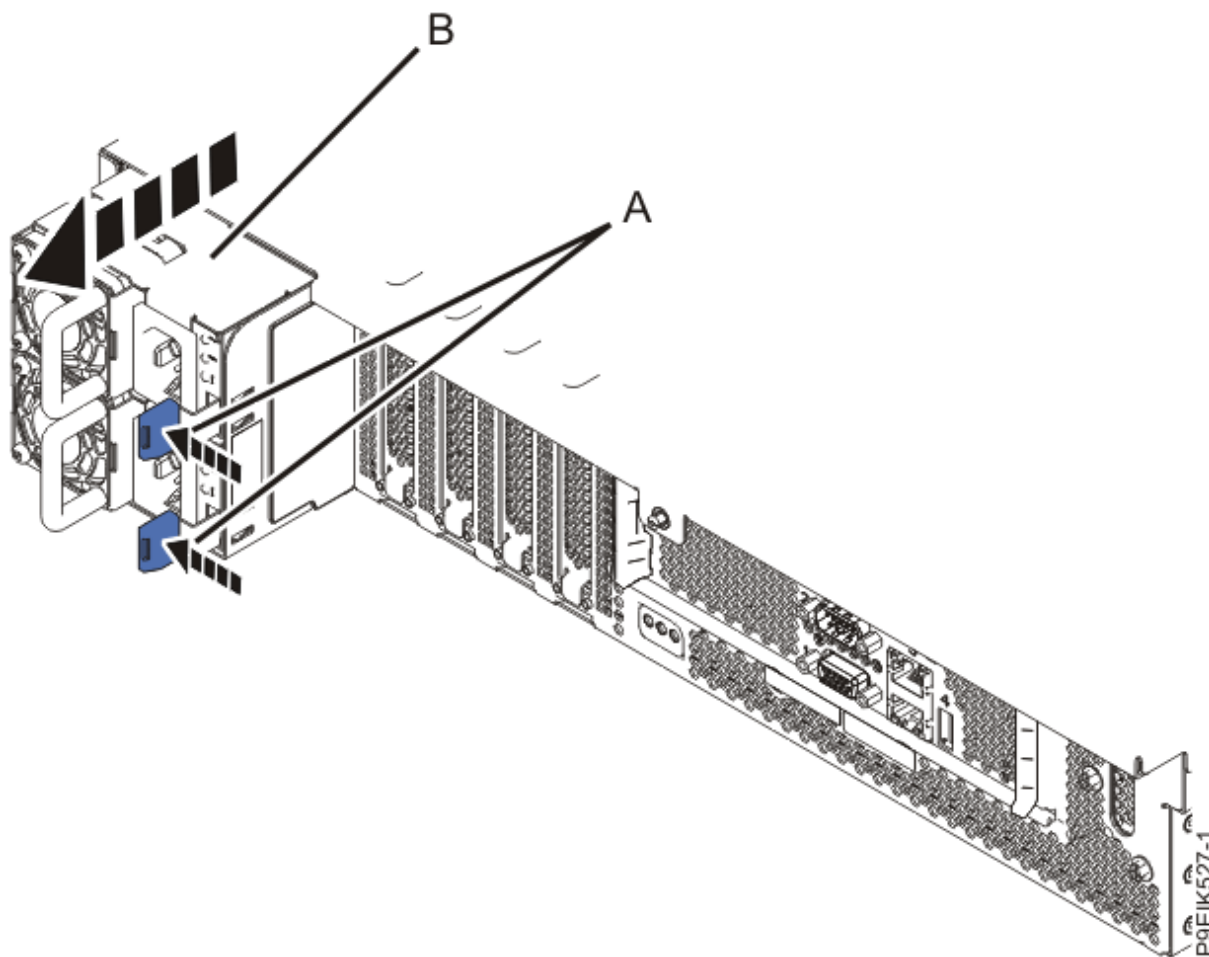

Figure 7. Removing the power supplies from the system
9. Remove the power supplies from the system as shown in Figure 7 on page 18.